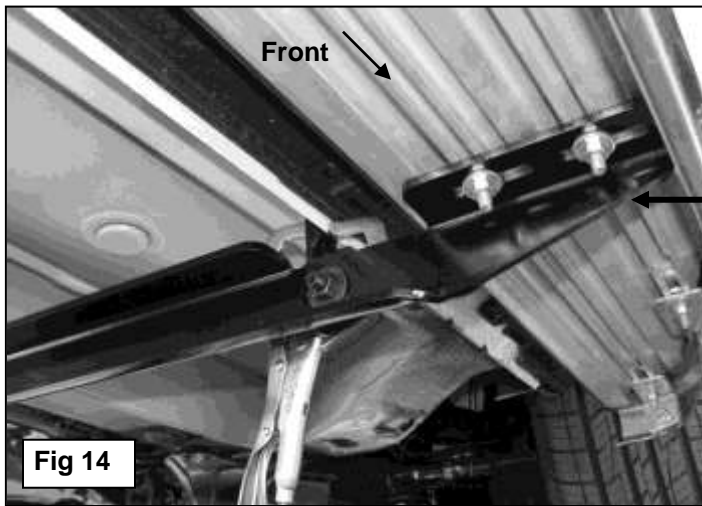

Fig 14
10. Attach the Running Board to the (3) Mounting Brackets with the included (6) 6mm x 22mm STD Flat Washers, (6) 6mm Lock Washers and (6) 6mm Hex Nuts, **(Figure 14)**. Do not tighten hardware.